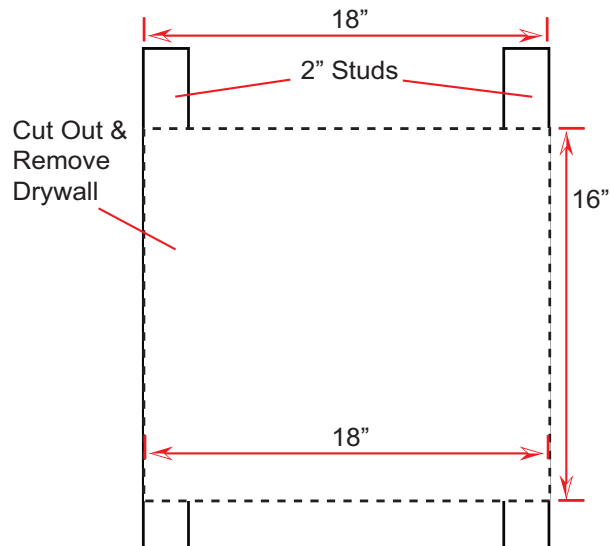

Figure 3. Preparing Mounting Surface for Plywood Wall Mounting
- b. Identify and mark an installation area on the drywall between the outer edge of each stud that matches the size of the plywood (at least 18 in. W x 16 in. H) (Figure 3). Then cut out that area of the drywall.